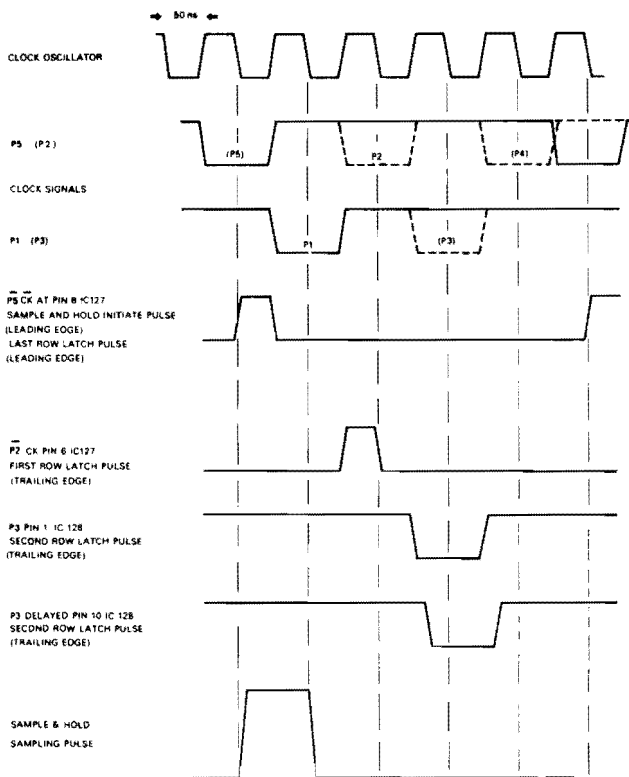
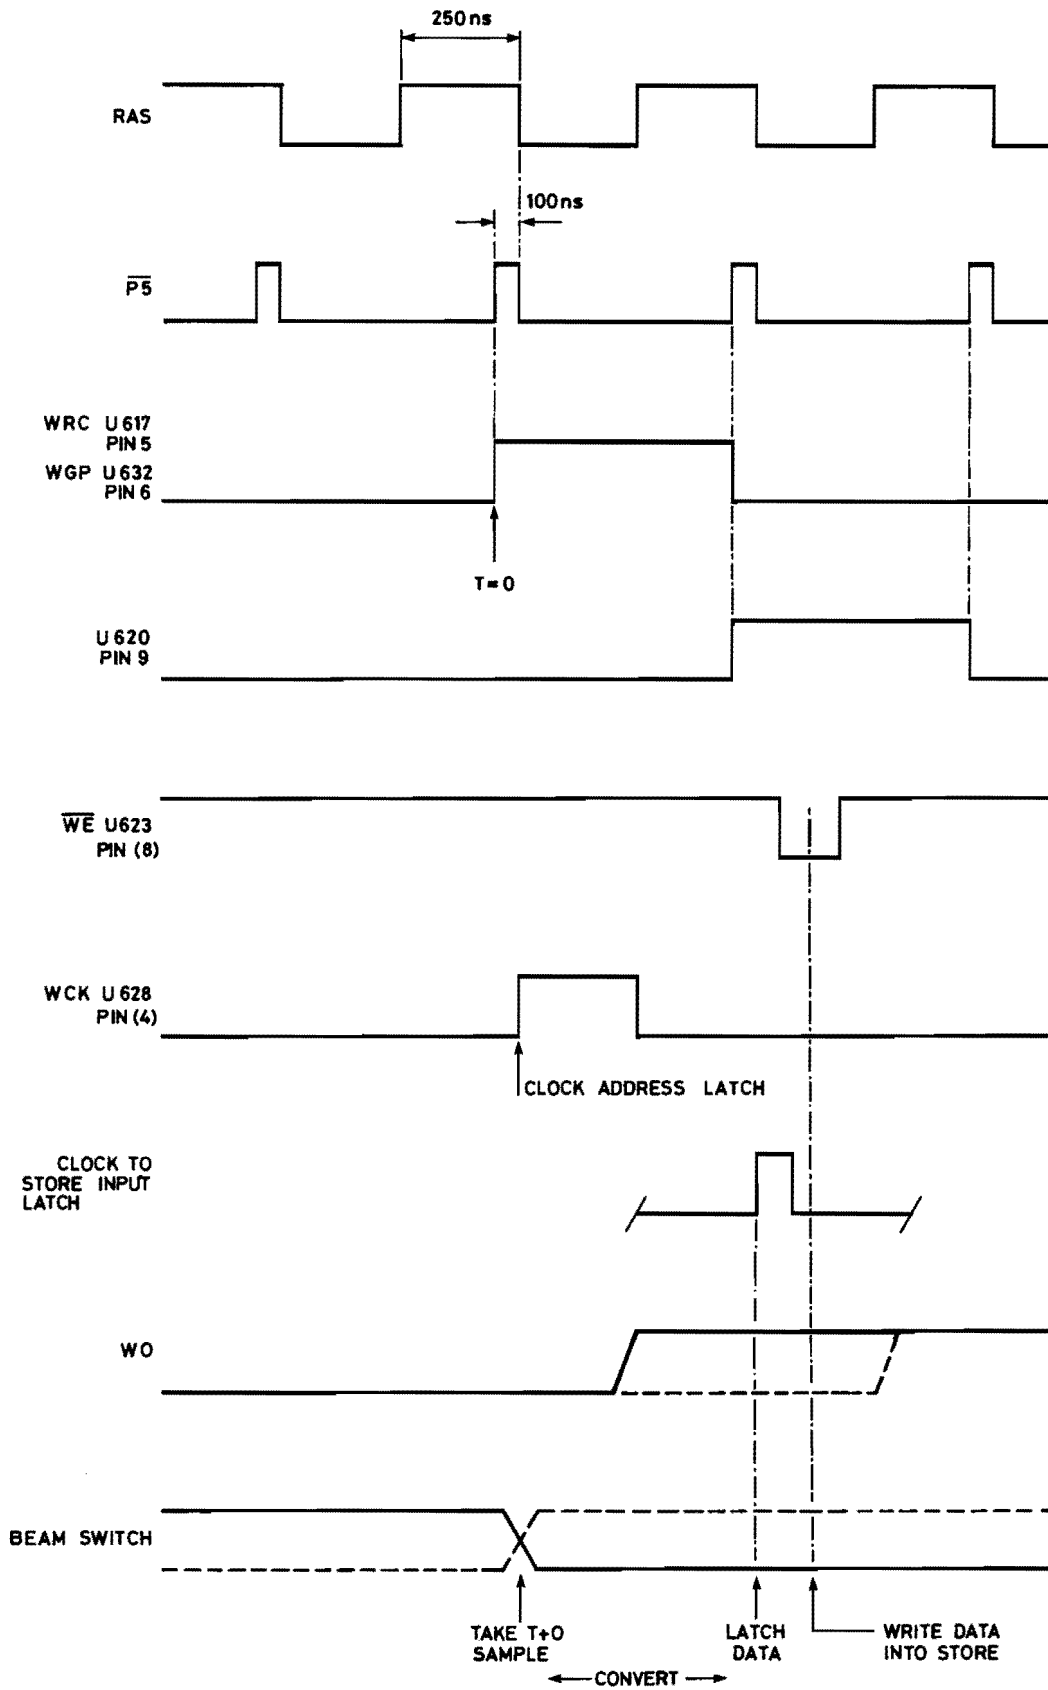

Fig. 4.4 Timing Signal Waveforms (ADC)
Fig. 4.13 Write Waveforms
The timing signals for the system are derived from a 10MHz oscillator driving a divider which generates the basic 5 phase 2MHz clock. This circuitry is included on the timing logic board (See Fig. 5.13). The waveforms and relative timing are shown in Fig. 4.4 and the method of deriving them is explained in section 4.5.3. The five subsidiary clock pulses are labelled P1 to P5 and these are gated with the original clock frequency in various combinations to derive the timing signals for the decoding logic as shown.
Write timing signals are shown in Fig. 4.13. The rate and manner by which data is written into store is not affected by the REFRESHED/ROLL selection and proceeds as follows.
The output from U617(a) is the Write Rate Clock (WRC). In the period under consideration it passes through to U619 pin (8) or U604 pin (8) as appropriate to appear at U632 pin (6) as the Write Gating Pulse WGP. Consider the positive edge of one such pulse as a T + O. Reference to the ADC timing chart Fig. 4.4 in conjunction with Fig. 4.13 shows that an ADC sample will be presented to the converter at approximately T + 150nsec. This is the sample to be associated with T + O. The beam switch is changed at T + 100nsec (if in dual trace). Due to device delays this change arrives at the sample and hold immediately after the latter has operated and is ready for the next sample. As indicated in Fig. 4.13, the converted T + O sample is latched at T + 600. As shown this is written into store in the immediately following write period. Ideally, the write counter should be incremented immediately after writing i.e., at T + 850nsec as shown by dotted line on WO. To reduce this delay, the address counter is incremented before writing and the beam switch is inverted to compensate utilising the symmetry of the beam switch signal (solid line on WO). Note that as the write counter is incremented before writing, the initial store location is not written into at the start of a write sweep.